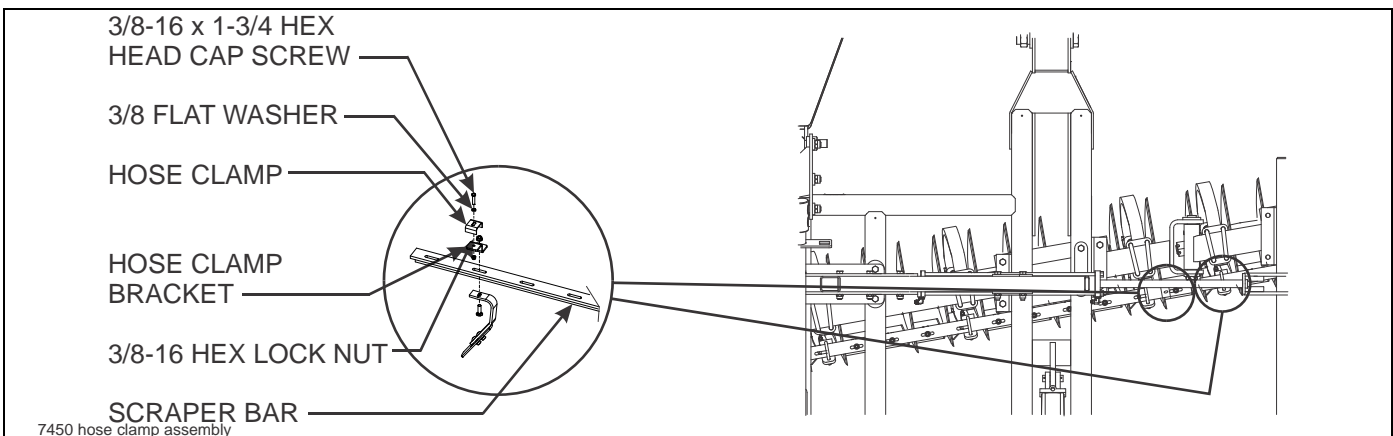

Figure 3-19: Hose Clamp Assembly
8. Attach hose clamp brackets to the scraper bar (See **Figure 3-19**.) Secure hoses to the brackets with hose clamps, 3/8-16 x 1-3/4 hex head cap screws, and hex lock nuts.